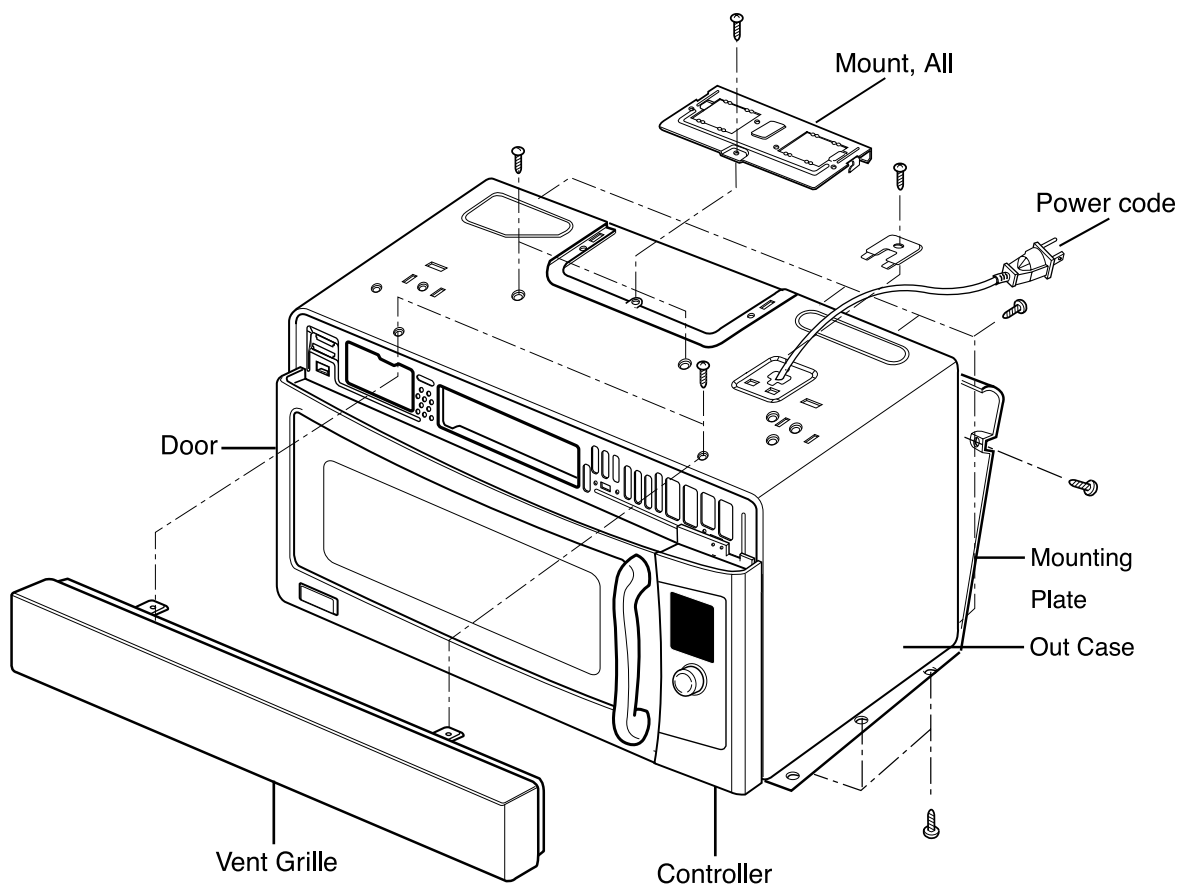

Figure 8
B. REMOVING THE OUT CASE(Figure 8)
- (1) Remove the vent grille by removing two screws securing it to the out case.
- (2) Remove two screws securing it to the air duct.
- (3) Remove the mounting plate by turning the screws (1 or 2 screws) securing it to the out case.
- (4) Remove two screws on the left central edge and two screws on the right central edge of Base plate. Remove the Mount, All from the out case by removing one screw securing it to the out case.
- (5) Remove four screws of the rear cavity.
- (6) Remove the outcase with disconnecting power cord connector.